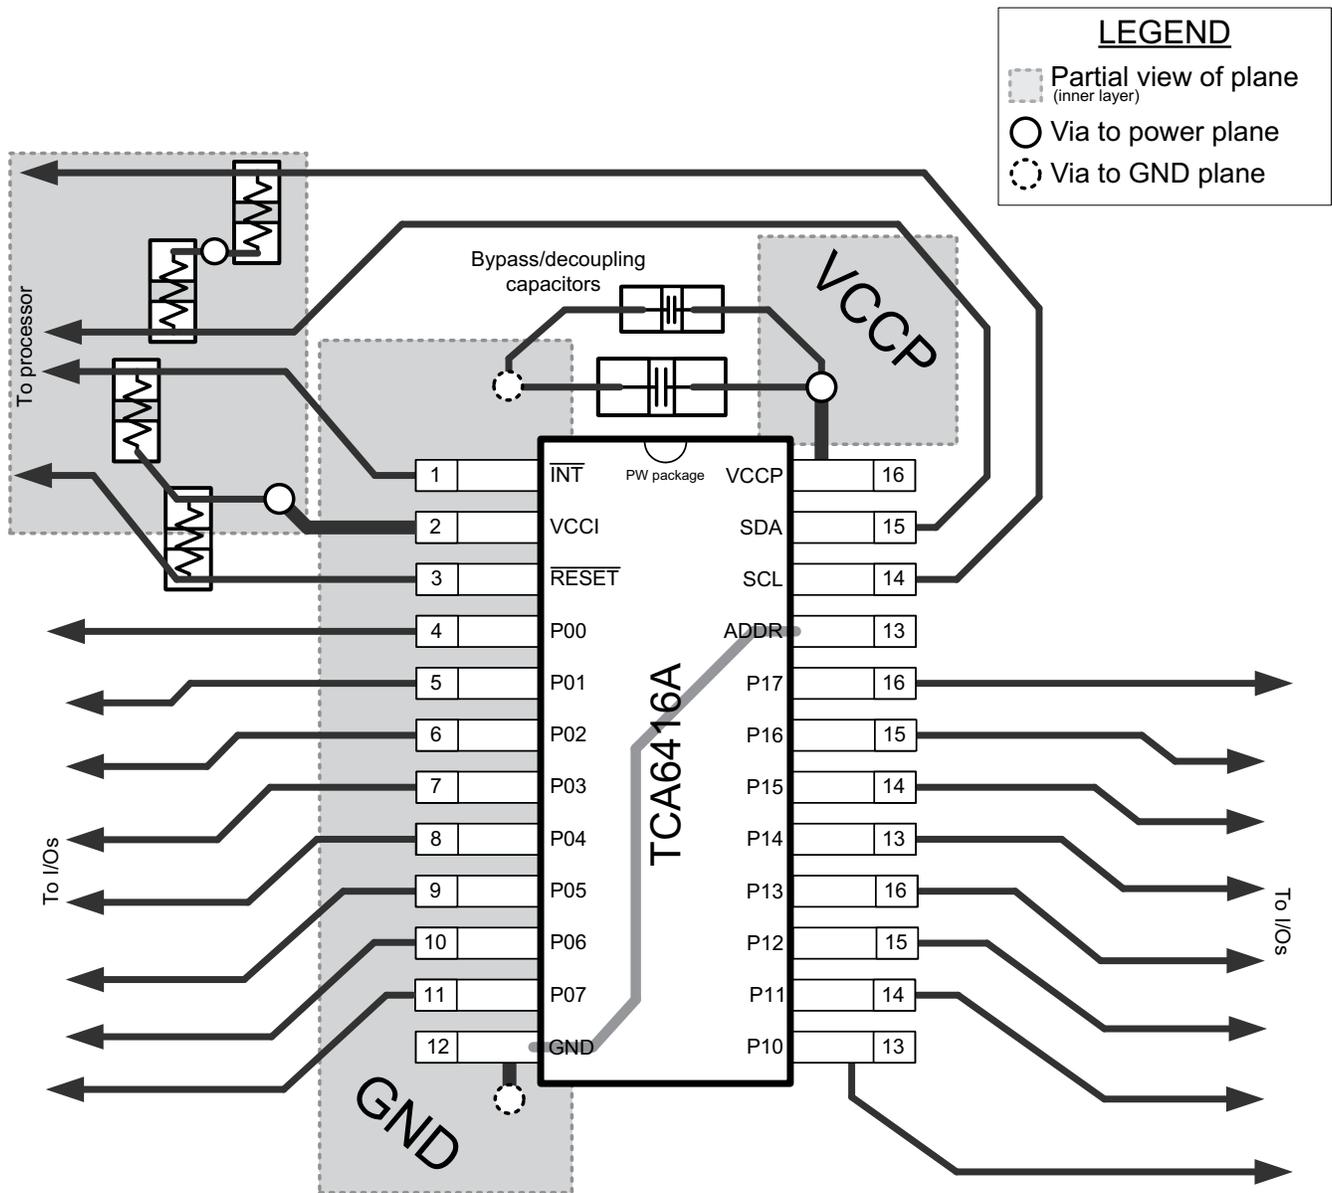

图 11-1. TCA6416A Layout
In all PCB layouts, it is a best practice to avoid right angles in signal traces, to fan out signal traces away from each other upon leaving the vicinity of an integrated circuit (IC), and to use thicker trace widths to carry higher amounts of current that commonly pass through power and ground traces. By-pass and de-coupling capacitors are commonly used to control the voltage on the VCCP pin, using a larger capacitor to provide additional power in the event of a short power supply glitch and a smaller capacitor to filter out high-frequency ripple. These capacitors should be placed as close to the TCA6416A as possible. These best practices are shown in Figure 11-1.
For the layout example provided in Figure 11-1, it would be possible to fabricate a PCB with only 2 layers by using the top layer for signal routing and the bottom layer as a split plane for power (V_{CCI} and V_{CCP}) and ground (GND). However, a 4 layer board is preferable for boards with higher density signal routing. On a 4 layer PCB, it is common to route signals on the top and bottom layer, dedicate one internal layer to a ground plane, and dedicate the other internal layer to a power plane. In a board layout using planes or split planes for power and ground, vias are placed directly next to the surface mount component pad which needs to attach to V_{CCI} , V_{CCP} , or GND and the via is connected electrically to the internal layer or the other side of the board. Vias are also used when a signal trace needs to be routed to the opposite side of the board, but this technique is not demonstrated in Figure 11-1.